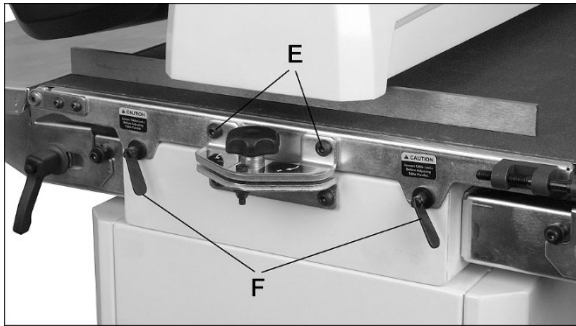

Figure 10-3
5. Remove two (2) screws at inboard side which attach conveyor table to base.
6. Remove two (2) screws that attach conveyor table to drum alignment bracket (E, Figure 10-3).
7. Loosen two table locks (F, Figure 10-3).